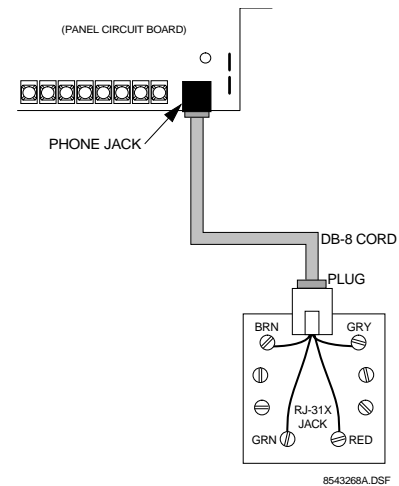

Figure 22. Connecting the DB-8 Cord to the Panel and RJ-31X Jack
- Insert one end of the DB-8 cord plug into the RJ-31X (see Figure 22).
- Insert the other end of the DB-8 cord plug into the phone jack on the Advent panel circuit board (see Figure 22).